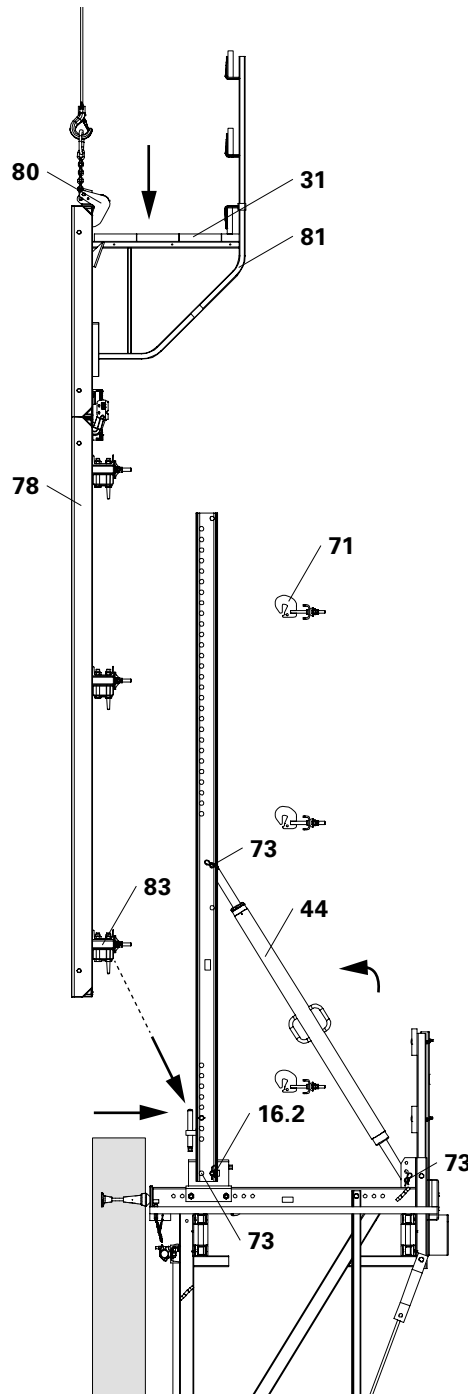

Fig. B2.30
2. Fix Strongback CB to the Adjusting Unit CB by means of Bolts Ø 25x180 (73) and Cotter Pins 4/1.
3. Fix Adjustable Brace CB 164-224 (44) to the bracket and Strongback CB using Bolts Ø 25x180 (73) and Cotter Pins 4/1.
4. Brace strongbacks laterally. (Fig. B2.30)